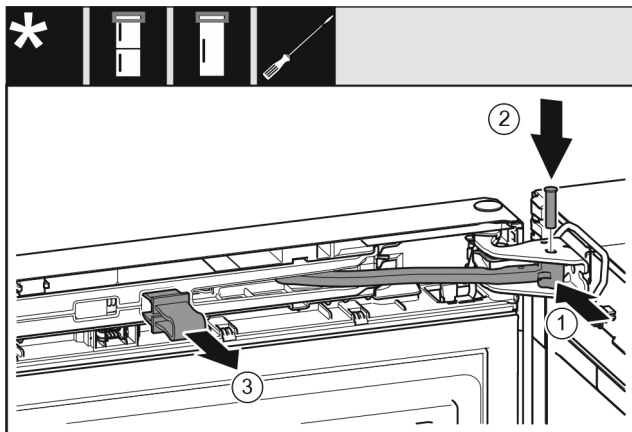

Fig. 21
- Turn the hinge in the bearing bracket. Fig. 21 (1)
- Insert the bolt in the bearing bracket and hinge. Make sure that the latching lug is sitting correctly in the groove. Fig. 21 (2)
- Remove the locking device. Fig. 21 (3)